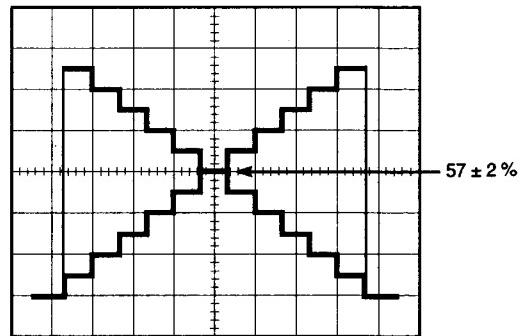

Fig. 5-1-32
- Adjust VR109 so that the Cross Point level of the Gray Scale becomes 57 ± 2 % and the carrier becomes minimum as shown in Fig. 5-1-32.
- Adjust VR209 so that the Cross Point level of the Gray Scale becomes 57 ± 2 % and the carrier becomes minimum as shown in Fig. 5-1-32.
- Adjust VR309 so that the Cross Point level of the Gray Scale becomes 57 ± 2 % and the carrier becomes minimum as shown in Fig. 5-1-32.